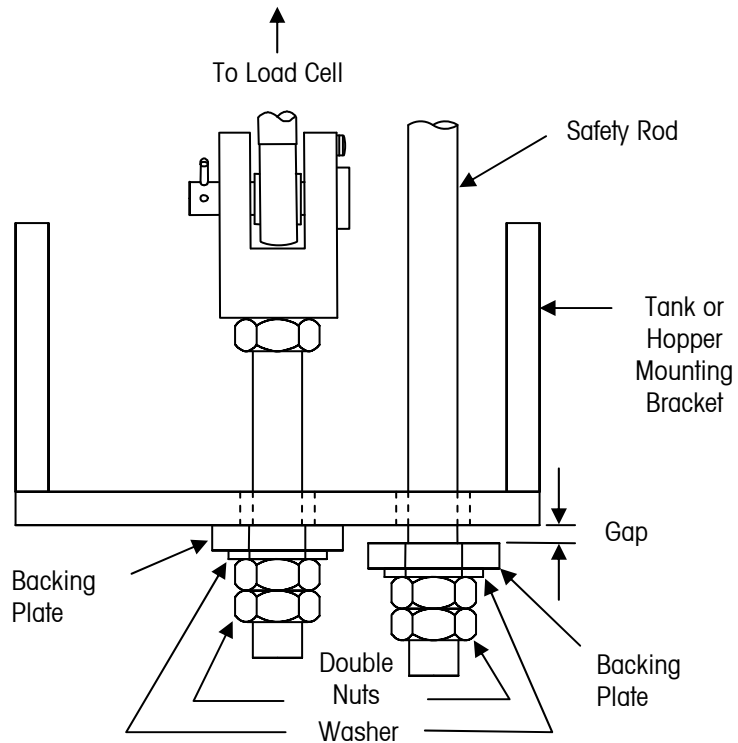

Figure 7-4: Weigh Module Assembly Attached to Lower Support Bracket
4. Install a safety rod next to each weigh module. Leave clearance between the lower support bracket and the washer on the safety rod (see Figure 7-4).